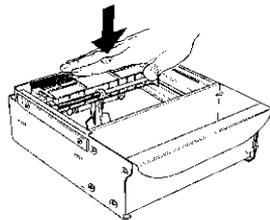

Figure 4-22. Level the note pile.
3. Make sure the note pile is as even as possible. If necessary, use your hands to smooth and level the pile (Figure 4-22)